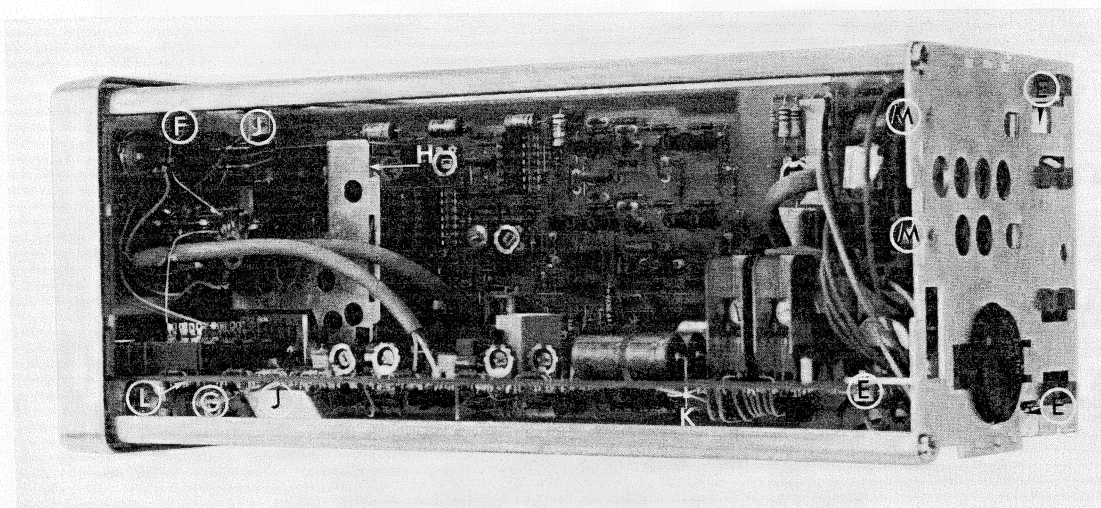

Fig. 2.7. Dismantling
- 3 screws E (Fig. 2.7.) holding p.c. boards to rear plate.
- 1 screw F (Fig. 2.7.) behind front panel (top).
- 1 nut G (Fig. 2.7.) behind front panel (bottom).
- unhook attenuator screening cover plate by pressing in lip (H) on top edge (see Fig. 2.7.).
- unscrew two screws J (Fig. 2.7.).
- unhook angle bracket K located halfway along edge of the printed-circuit board (Fig. 2.7.).
- unhook angle bracket K located halfway along edge of the p.c. board (Fig. 2.7.).
- to remove horizontal board: remove one screw L securing it to the front panel (Fig. 2.7.).
- to remove vertical board: remove appropriate attenuator connections and two screws J securing it to the front panel (Fig. 2.7.).
- unscrew two mounting screws M (Fig. 2.7).